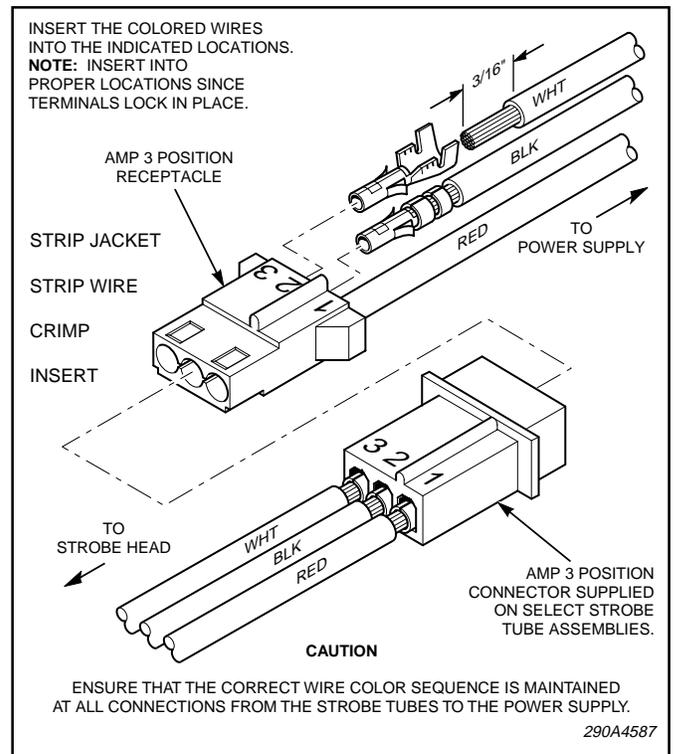

Figure 2.
5. *Strobe Head Cable End. (See figure 2.)*
g. Plug the fabricated cable end into the strobe head connector as shown in figure 2.